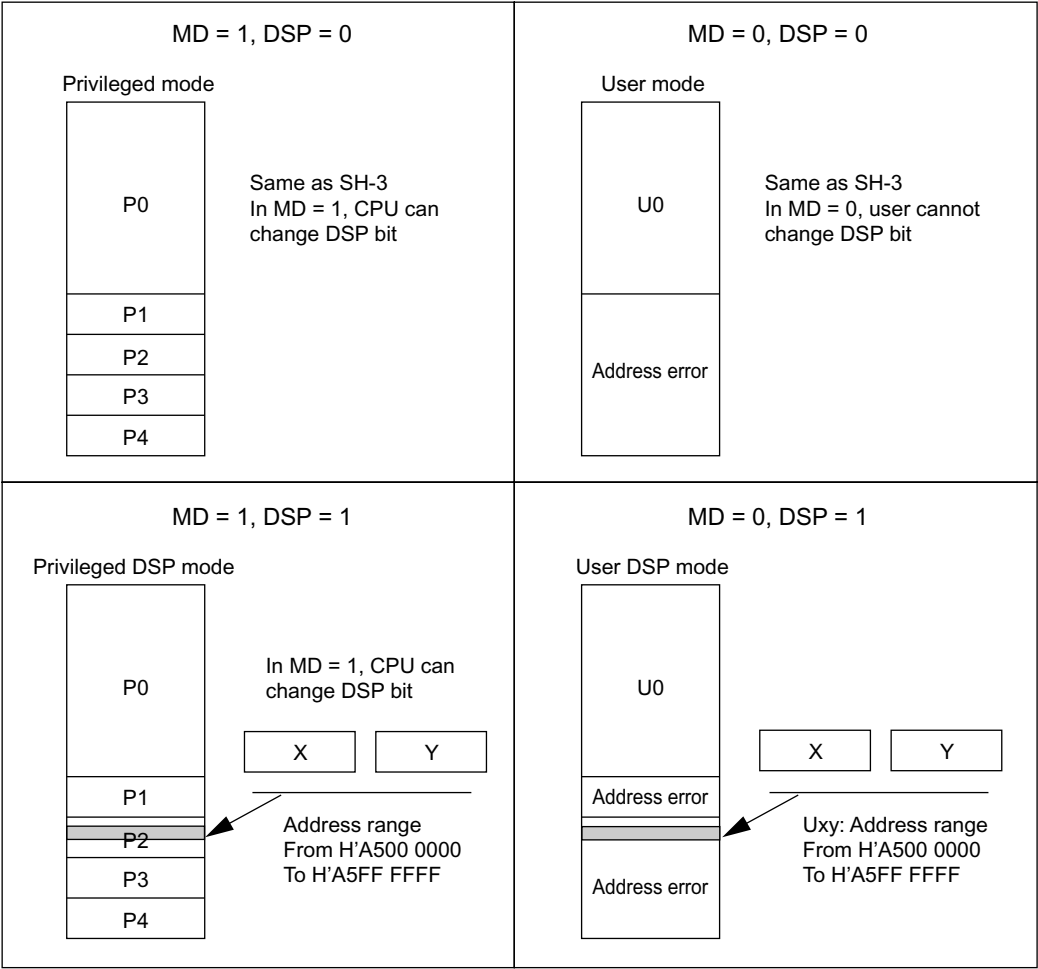

**Figure 6.1 X/Y Memory Logical Address Mapping**
The X/Y memory can be located in either map-enabled area or fixed-mapped area, depending on the mode bit (MD) and DSP bit (DSP) setting in the status register (SR). Figure 6.1 shows X/Y memory logical mapping.
The X/Y memory resides on the second 16 MB of physical address space area 1, from H'A500 0000 to H'A5FF FFFF. These 16-MB address spaces are shadowed and maps to the same 128-kbyte X/Y ROM/RAM. Figures 6.1 and 6.2 show X/Y memory physical mapping.